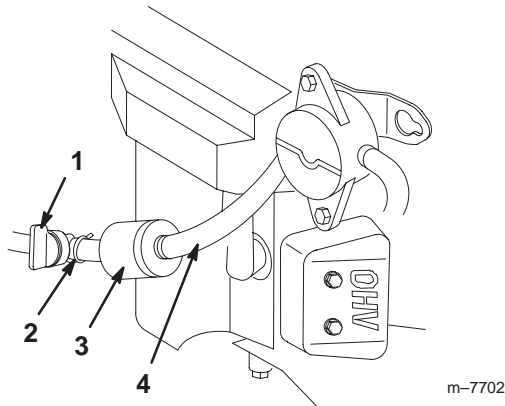

Figure 36
5. Close the fuel shutoff valve (Fig. 36).
6. Squeeze the ends of the hose clamps together and slide them away from the filter (Fig. 36).
8. Install a new filter and move the hose clamps close to the filter (Fig. 36).
3. Close the fuel shutoff valve (Fig. 36).
4. Loosen the hose clamp at the fuel filter and slide it up the fuel line away from the fuel filter (Fig. 36).
5. Disconnect the fuel line from the fuel filter (Fig. 36).
6. Open the fuel shutoff valve (Fig. 36).
Note: Allow gasoline to drain into a fuel container can or drain pan (Fig. 36).
7. Install the fuel line onto the fuel filter. Slide the hose clamp close to the fuel filter to secure the fuel line (Fig. 36).